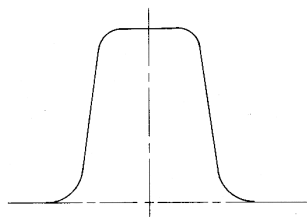

Figure 3-1A. FM IF Waveform
2. With the sweep generator frequency set to 10.7 MHz, gradually increase the output level of the sweep generator until the waveform shown in Figure 3-1A appears on the CRT screen. Perform the adjustment with the generator output as small as possible and the oscilloscope vertical gain as high as possible.
3. Adjust IFT1 to obtain a symmetrical and clear waveform as shown in Figure 3-1A.